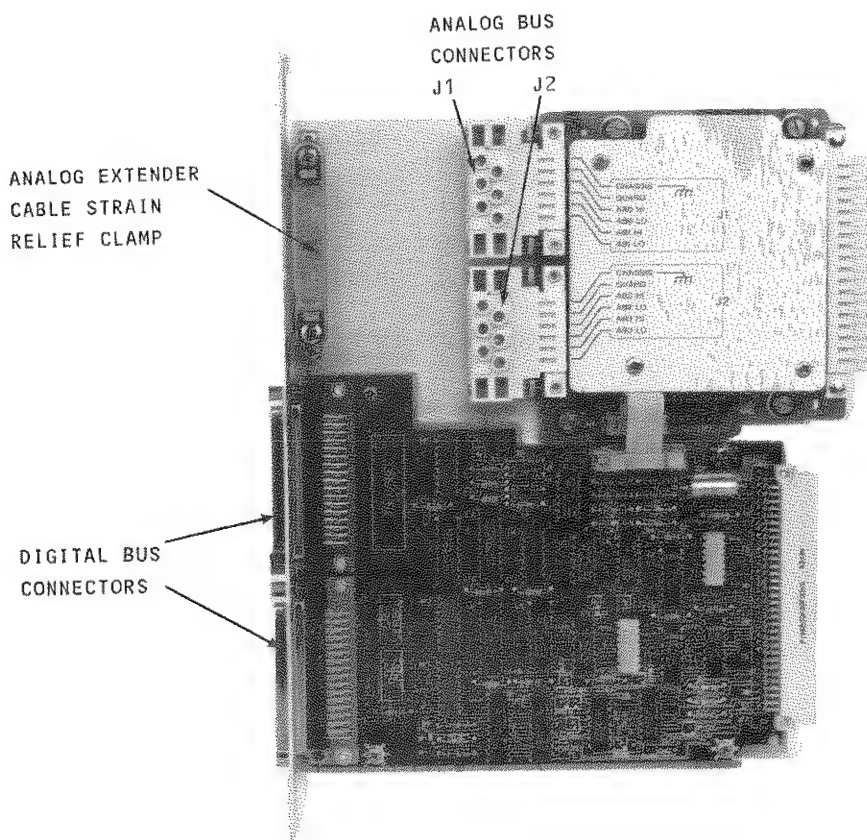

Figure 13. HP 34560 Extender Module.
- a. Unpack the HP 34560 Extender Modules (one for the mainframe and each extender). An HP 34560 Extender Module is shown in Figure 13.